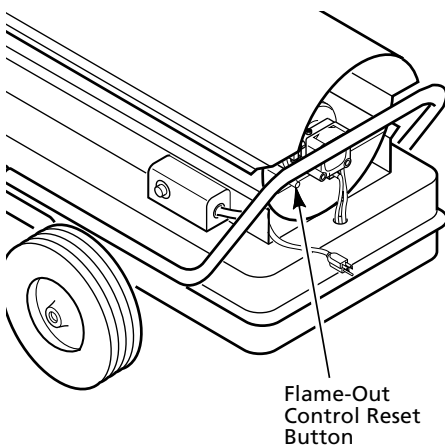

Figure 6 - Flame-Out Control Reset Button
8. The motor will start when extension cord is plugged into outlet. The heater should ignite at once. If heater does not ignite, restart heater. To restart heater, wait 60 seconds, then push in flameout control reset button. Flameout control reset button is at rear of heater near power cord (See Figure 6).